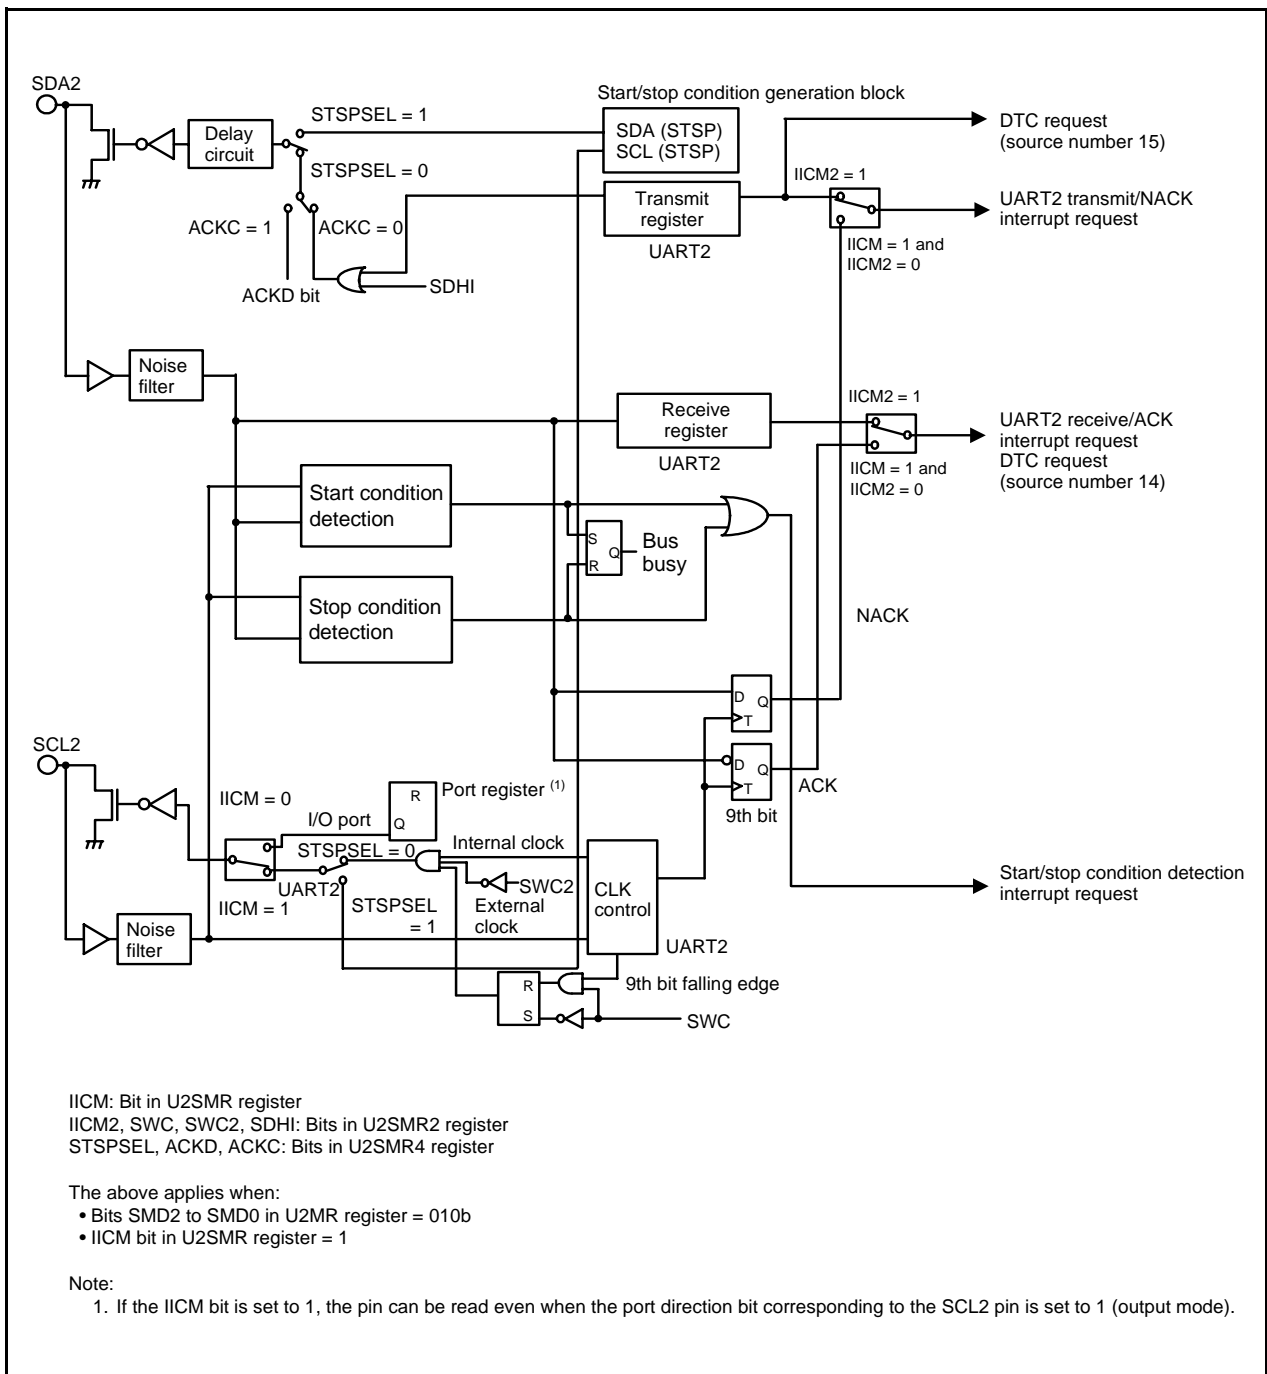
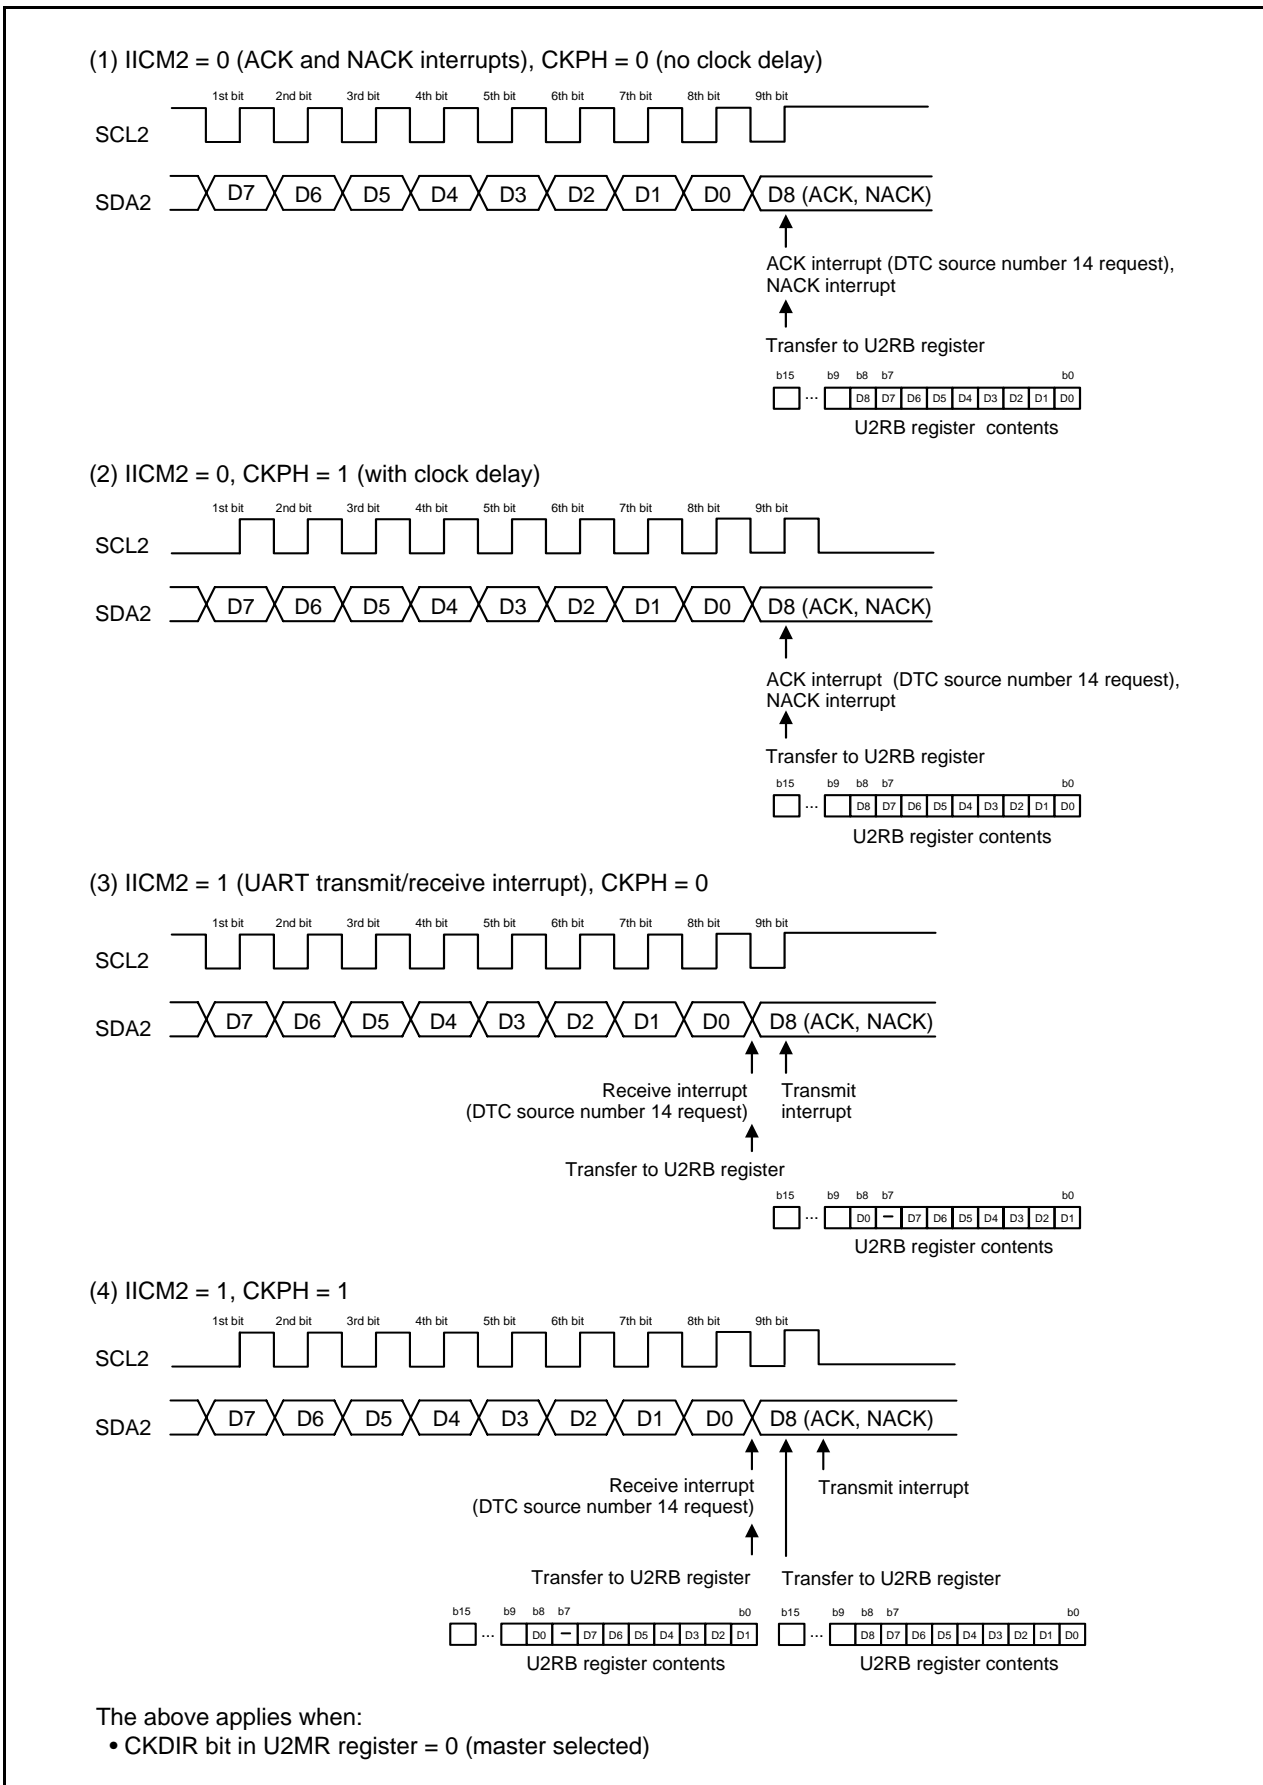

Figure 25.13 I²C Mode Block Diagram
Figure 25.14 Transfer to U2RB Register and Interrupt Timing
I²C mode is provided for use as a simplified I²C interface compatible mode. Table 25.9 lists the I²C Mode Specifications. Tables 25.10 and 25.11 list the registers used in I²C mode and the settings. Table 25.12 lists the I²C Mode Functions, Figure 25.13 shows the I²C Mode Block Diagram, and Figure 25.14 shows the Transfer to U2RB Register and Interrupt Timing.
6. Refer to **Figure 25.14 Transfer to U2RB Register and Interrupt Timing**.
The transfer clock is used to transmit and receive data as is shown in **Figure 25.14 Transfer to U2RB Register and Interrupt Timing**.